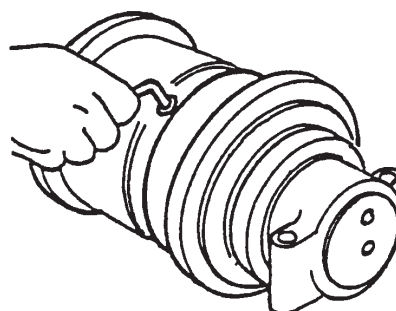

Fig. 3-77 Track roller - fill plug
5. Put some loctite on the threads of the oil fill plug and install with a 6mm allen wrench (fig. 3-77).